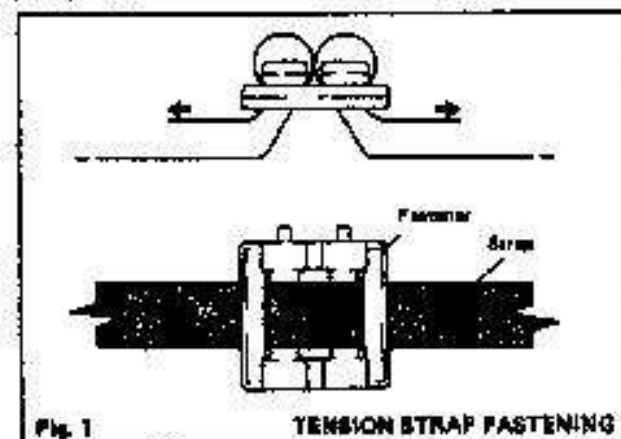

Fig. 1
The Ideal Mexico Slimline CF, 40 and CF, 55 models are floor-standing open flued boilers, range rated, having outputs of 6.79 to 11.72kW (33 000 to 40 000 Btu/h) and 11.72 to 16.12kW (40 000 to 55 000 Btu/h) respectively. The boiler is supplied with an insulating blanket of aluminium foil backed fibreglass, covering the top and sides of the boiler body, and held in place by a securing strap. (See Fig. 1).
BEFORE COMMENCING INSTALLATION remove the flue cleanout cover, (4) - Fig. 1, and ENSURE that the flue retractor, fitted over the flueway fins during Works assembly, is in its correct position as illustrated.